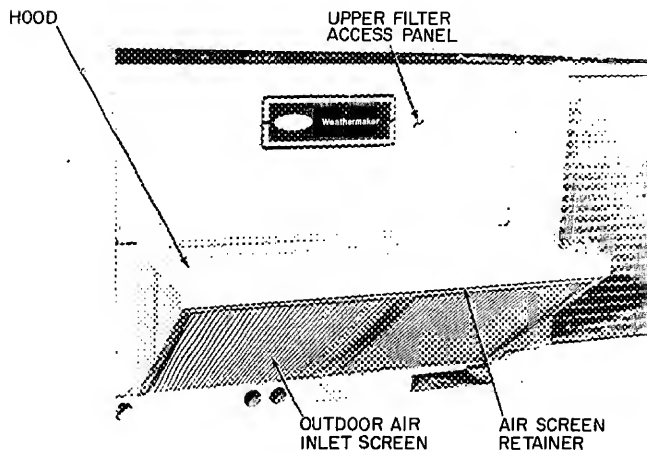

Fig. 16 — Removing Economizer Upper Filter Access Panel (004,005,006,007 Units)
1. Remove upper filter access panel (save screws). See Fig. 16.
9. Place outdoor air inlet screen in hood and secure with retaining bracket across hood front. See Fig. 16.